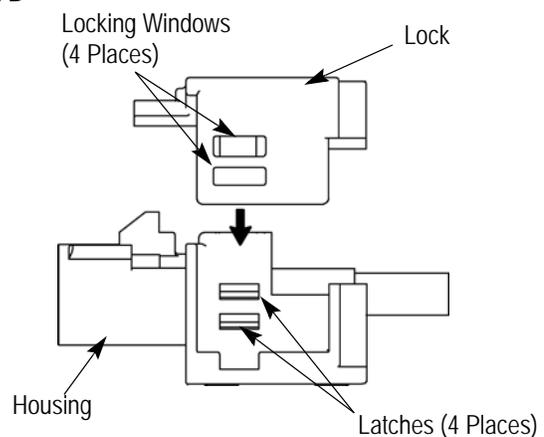

Figure 6
7. Slide the subassembly into the housing until the collar bottoms on the stop. The full length of the subassembly should be inside the housing and the ferrule over, but not touching, the channel of the housing. See Figure 6, Detail A.
8. Align the locking windows of the lock with the latches of the housing. See Figure 6, Detail B. Push the lock onto the housing until it 'snaps' into place. Check that all latches are fully engaged. If any latch is not fully engaged, press down on the top of the lock while pressing inward on the sides of the lock.